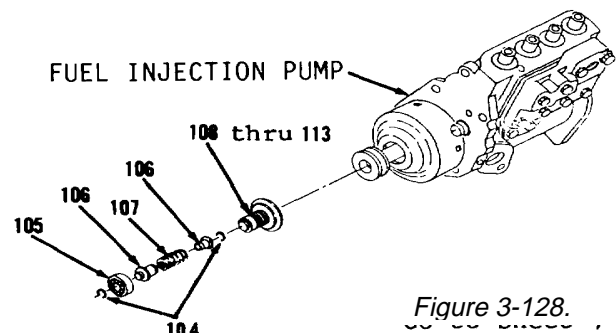

Figure 3-128.
8. Using suitable spring compressor, compress spring (107, Figure 3-128).
9. Remove ring (104).
10. Release spring (107) and remove spring compressor.
11. Remove bearing (105).
12. Remove two sleeves (106) and spring (107).
13. Remove ring (104) and items 108 thru 113 as an assembly.